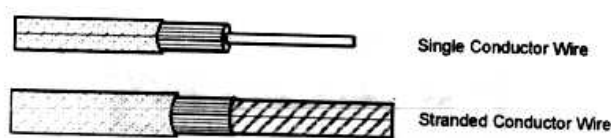

Fig. 5.13
2. **Insulated Wire.** An insulation covered wire used in domestic wiring is called an insulated wire. It may be a *single conductor wire* (in case of aluminium conductors) or a *stranded conductor wire* (in case of copper conductors) as shown in Fig. 5.13.